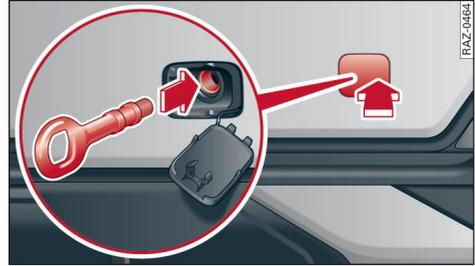

Fig. 162 Rear bumper: Fitting the towline anchorage
- ▶ Firmly press the cap inwards briefly ⇒ *Fig. 162*. The cap will be released from the bumper.